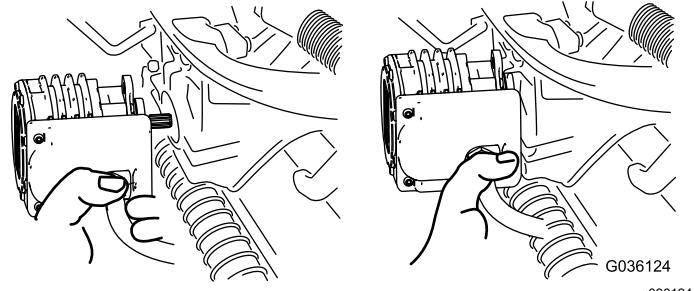

Figure 56
- 5. Move the motor to the storage location on the front of the suspension arm (Figure 56).